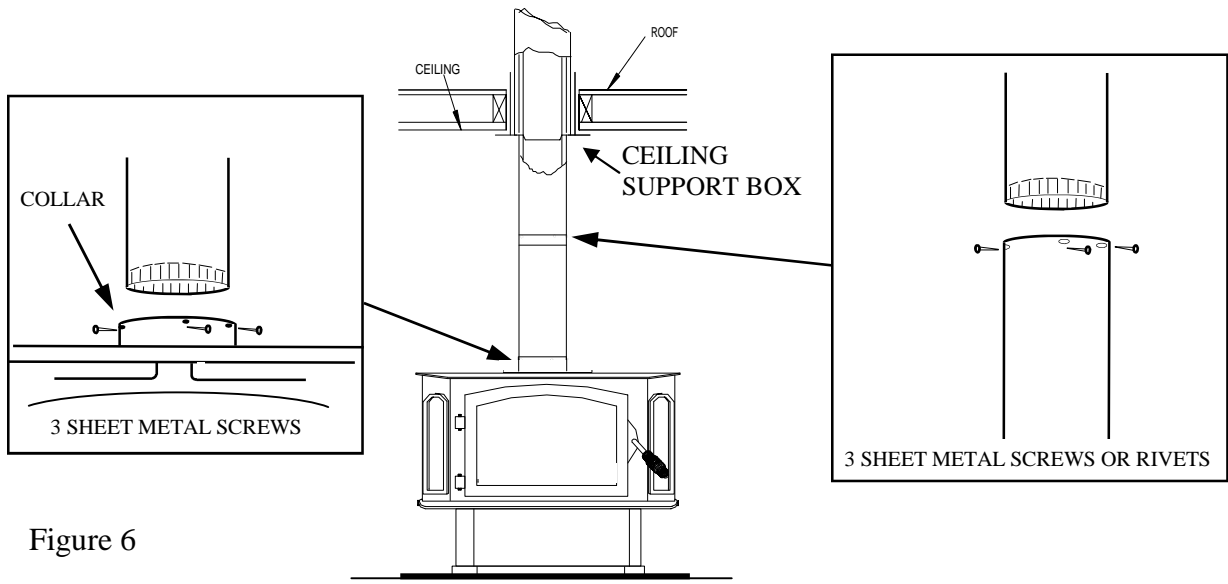

Figure 6
3. Now connect stove and ceiling support box using #24 ga. minimum blued or black steel connector pipe (**DO NOT USE GALVANIZED PIPE**). Connect each section so crimped end faces downward, and secure each section to each other using at least three (3) sheet metal screws or rivets. Also use three (3) sheet metal screws to fasten pipe to collar on heater (See Page 20, Figure 6) or you may use 3 "EII" brackets fastened to top of heater and fastened to stove pipe.